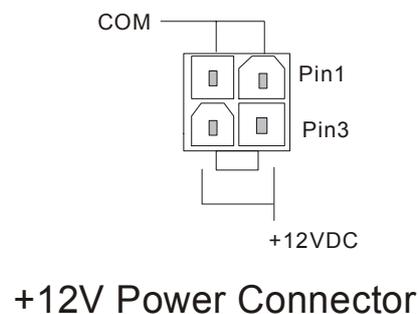

FIG2
2. Connect the 4 pin connector to the +12V power connector. See FIG. 2.